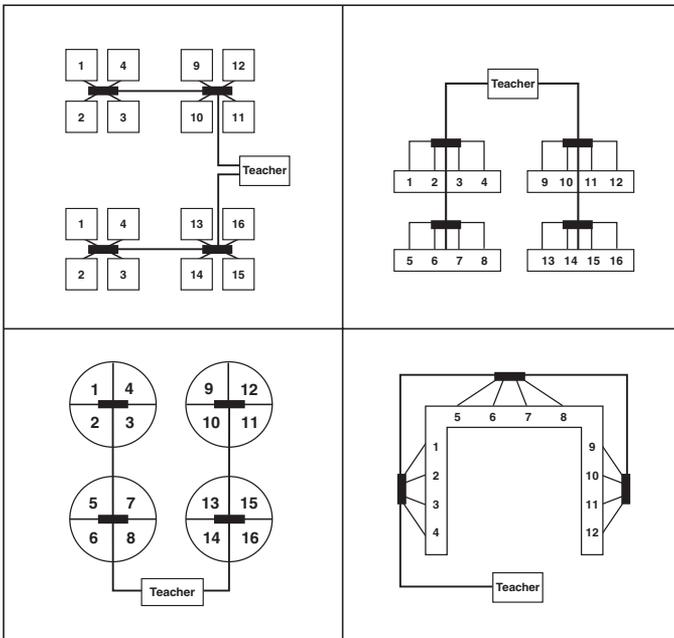

Figure 3-4. Positioning the Teacher.
- Determine where in the classroom you are going to place the Teacher Position. Usually the Teacher sits at the front of the class; but not always. **Figure 3-4** illustrates four different configurations for the Teacher Position.